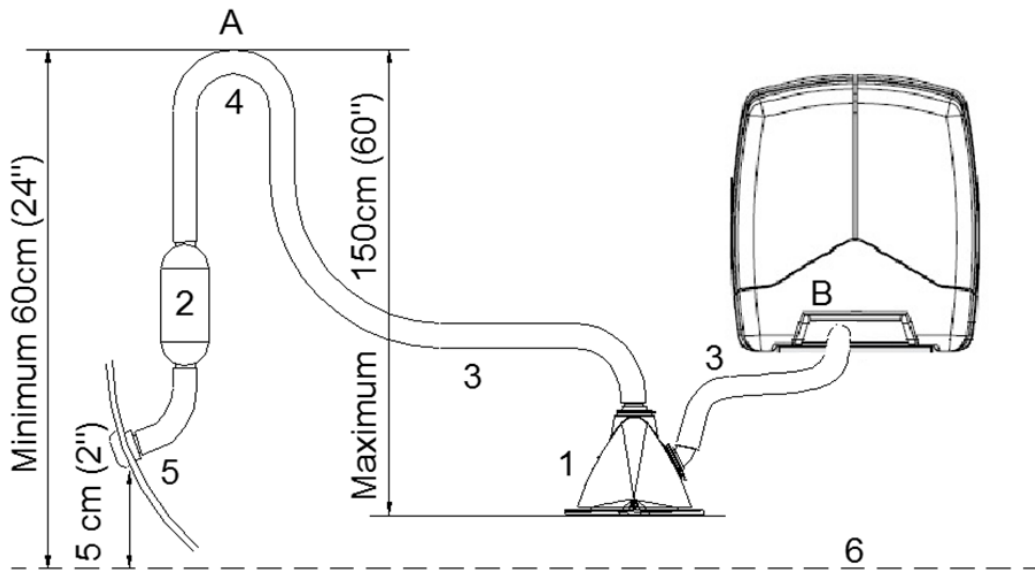

Figure 9: Standard exhaust system
The Genverter wet exhaust system must remain completely independent and separate from the exhaust system of any other engine on board. A water lock prevents the Genverter from being flooded by cooling water and should be installed as close to the Genverter as possible. The lock must be large enough to hold the entire water volume held in the hose from the top of the goose neck to the water lock. The water lock must be installed at the lowest point of the exhaust system (refer to Figure 9, ref. 1). The exhaust hose must have an inner diameter of 40 mm no less, no more-. The exhaust system must be installed so that the back pressure inside the exhaust does not exceed 0,8 psi 60 cm. water pressure (refer to the user's manual) and total length up to the outlet or water separator does not exceed 2,5 m. The exhaust hose descends from the capsule to the water lock. Then the hose rises maximum lift 120 cm via the "goose neck" to the through-hull exhaust outlet, situated minimum 50 mm above the water line (refer to Figure 6, ref. 5). The "goose neck" must be vertical and situated preferable along the ship's keel centre line. It is recommended to install an extra muffler (see Figure 9, ref. 2) close to the through-hull fitting.